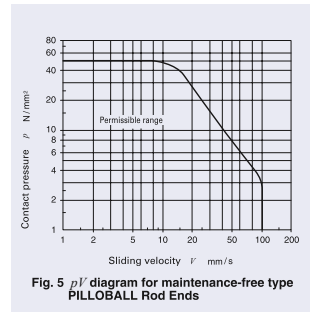

Fig. 5  $pV$  diagram for maintenance-free type PILLOBALL Rod Ends
Before attempting to calculate the life, make sure that the operating conditions are within the permissible range by referring to the  $pV$  diagram in Fig. 5.
The life of maintenance-free type PILLOBALL Rod Ends is obtained from the total sliding distance  $S$  which is given in Fig.5 for the contact pressure  $p$  obtained from equation (3).